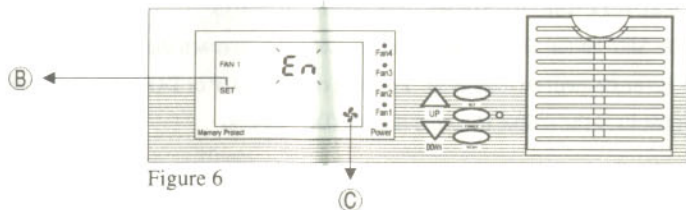

Figure 6
- 1) Scroll through the different channels (sensor channels followed by fan channels) by pressing the SET button an appropriate number of times. When SET (Figure 6-(B)) and FAN1 are displayed, then you are in the fan channels. The number of the fan channel is displayed to the right of FAN1.